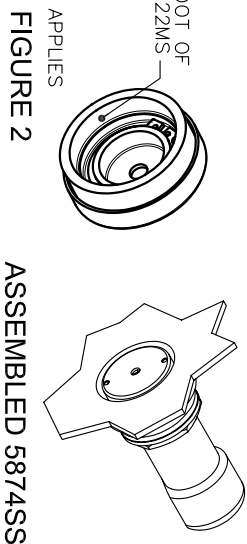

FIGURE 2
- 5.) APPLY ONE (1) DOT OF LOCTITE 222MS, ON THE FEMALE THREADS OF BUTTON ASSEMBLY, LEAVING THE FIRST AND LAST THREADS FREE. (FIGURE 2), CAUTION: EXCESS LOCTITE CAN CAUSE THREADS TO LOCK VERY TIGHTLY, MAKING REPAIRS DIFFICULT.